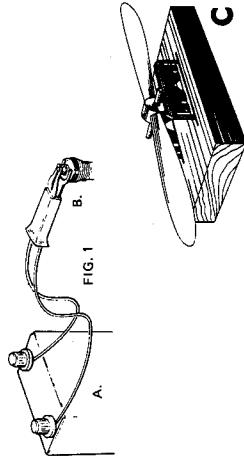

FIG. 1
6. Connect the battery by connecting the clip on the glow head. B—Fig. 1.